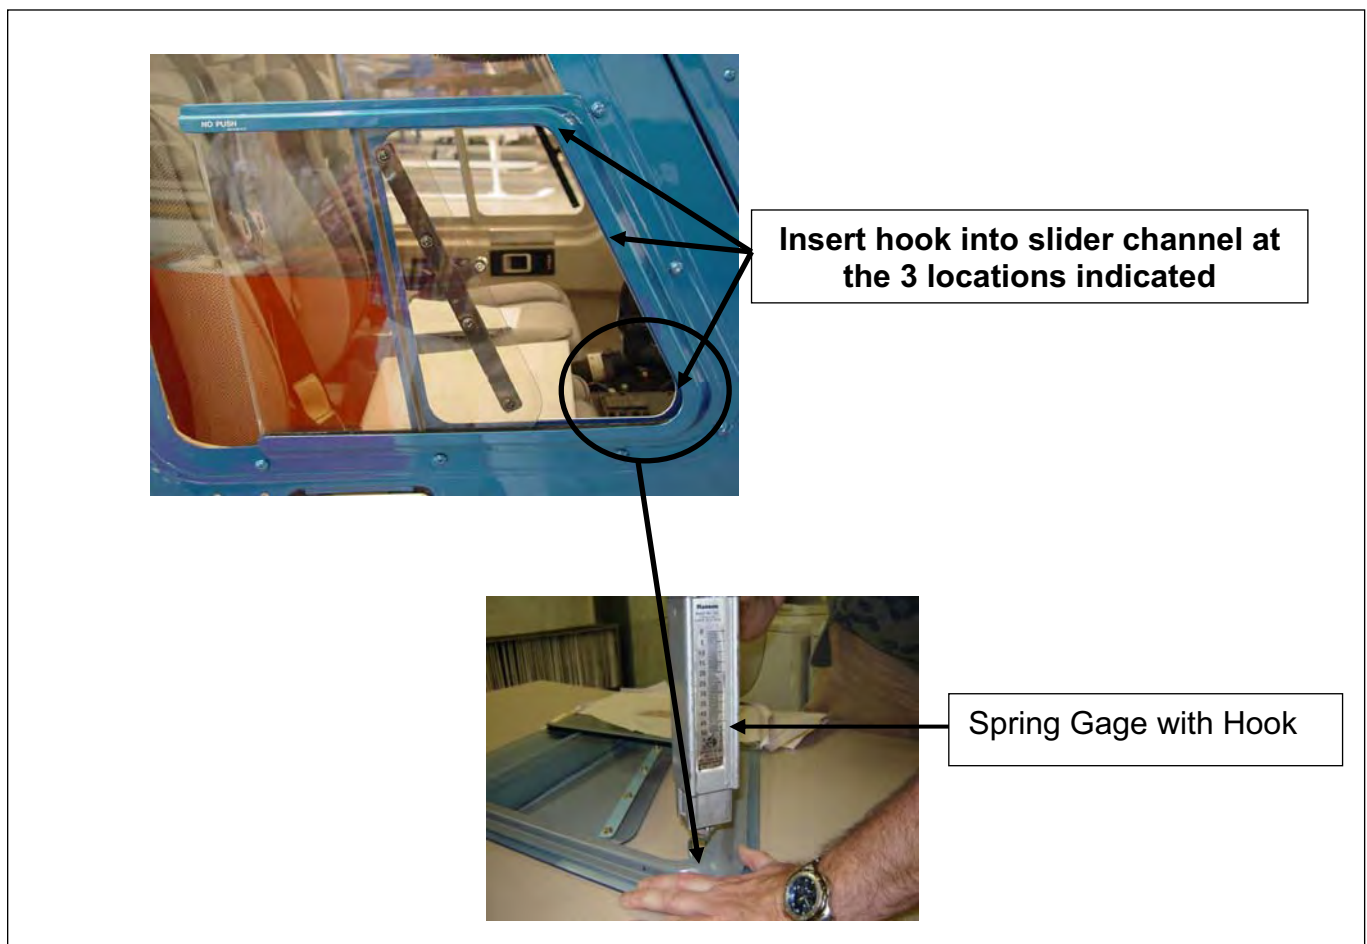

FIGURE 5 – Forward Pull Test Locations
4. With the slider assembly in the full-open (aft) position, from the exterior of the aircraft, insert the spring hook directly into the channel of the slider track at the 3 locations indicated in Figure 5.